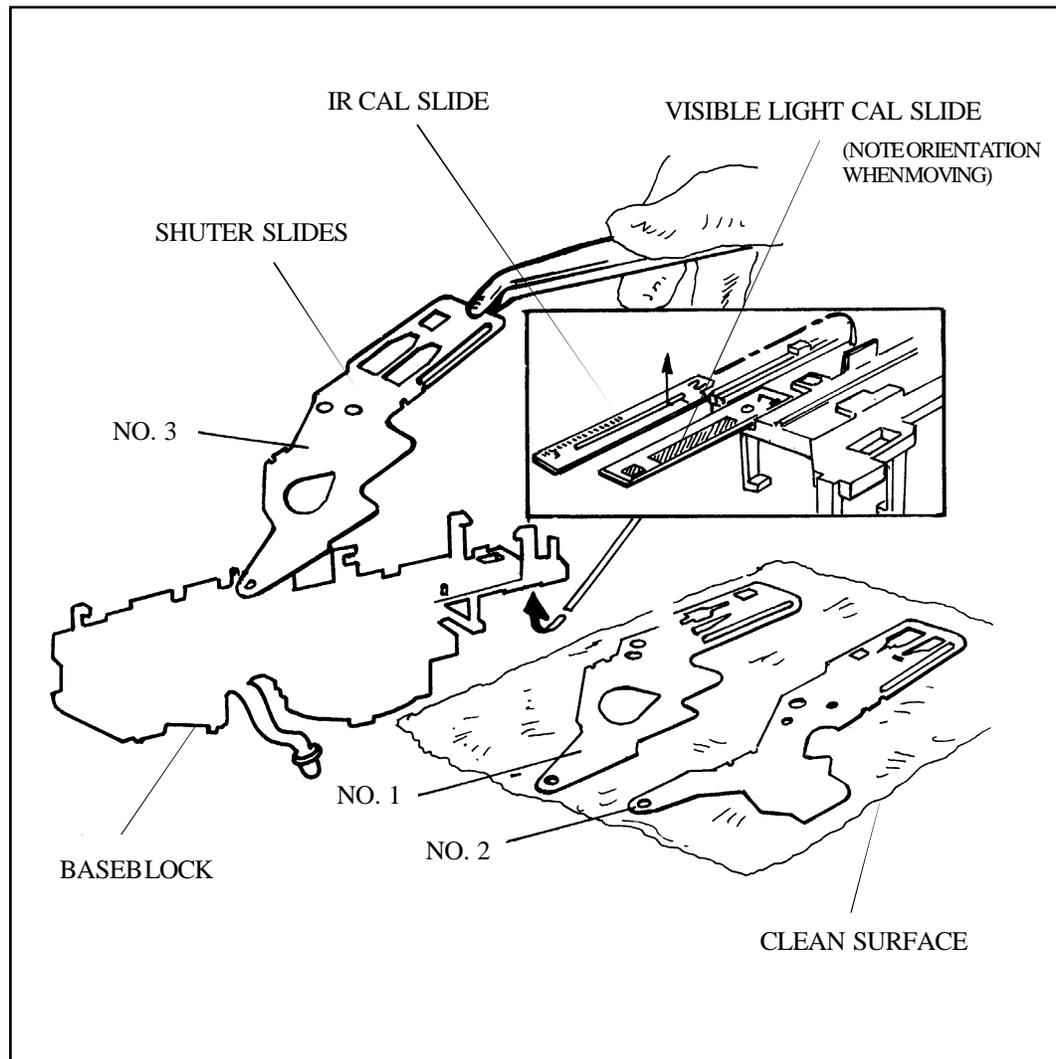

Figure 3-41. Removing Calibration Slides and Shutter Blades
- j. Carefully remove the IR and Visible Light Calibration Slides, noting orientation and order for future reassembly (Figure 3-41).
- k. Using tweezers and wearing lintless gloves or finger cots, carefully remove the shutter blades, noting orientation and order. Suggestion: put them aside on a clean surface, in the position and order removed (Figure 3-41).